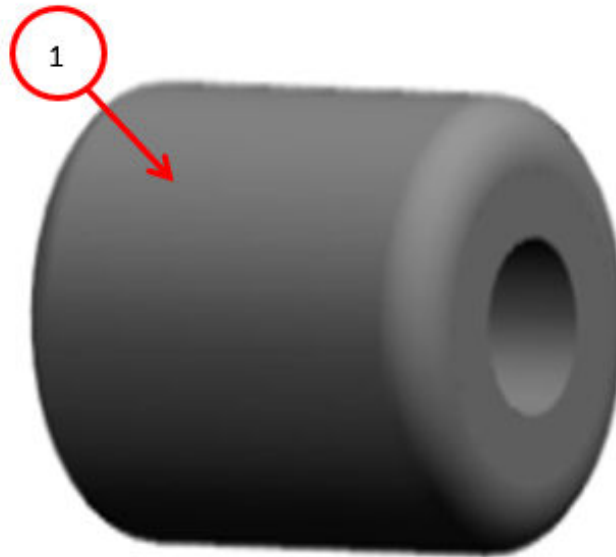

**Fig. 2**
4. Remove the hose clamp from the coolant hose Fig. 2.
8. Move the coolant hose clamp into its installed position on the coolant hose and tighten Fig. 2.